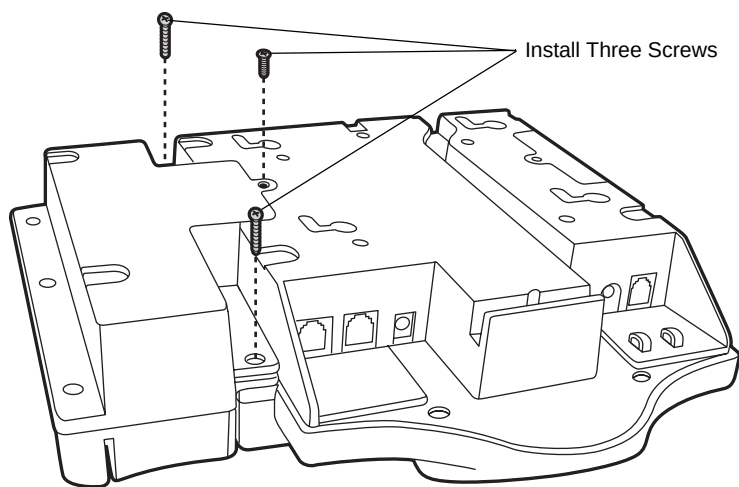

Figure 2-15 Securing the MSR to the MK2200
5. Secure the MSR to the MK2200 as shown in Figure 2-15. Use the shorter screw from the protective cover, and two new (longer) screws provided with the MSR.